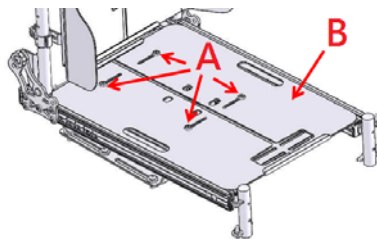

Figure 5-79
5.3.5.10 Use the #4 Allen Key Wrench to remove the screws A and the plate B. (Figure 5-79)